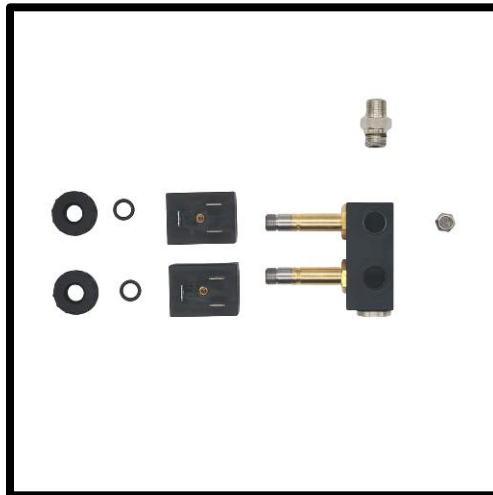

Figure 1
- 1-A) Open the ARB Pressure Control Kit and remove the valve assembly. Disassemble as shown in **Figure 1**. Loosen the cap on top of each solenoid and take note of the O-ring under each cap. Be careful not to damage them as you slide the solenoids off the posts. Each solenoid can be interchanged between the posts (they are identical), but maintain orientation (i.e., the single blade connection is the cap / O-ring end). Remove the fitting from the input port and the small “muffler” from the exhaust port. The fitting and “muffler” will not be reused.